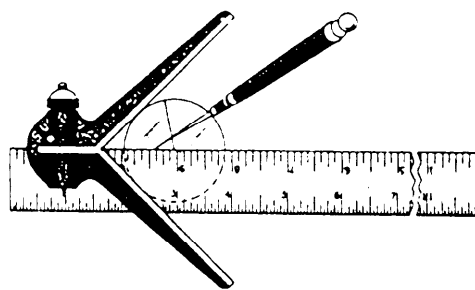
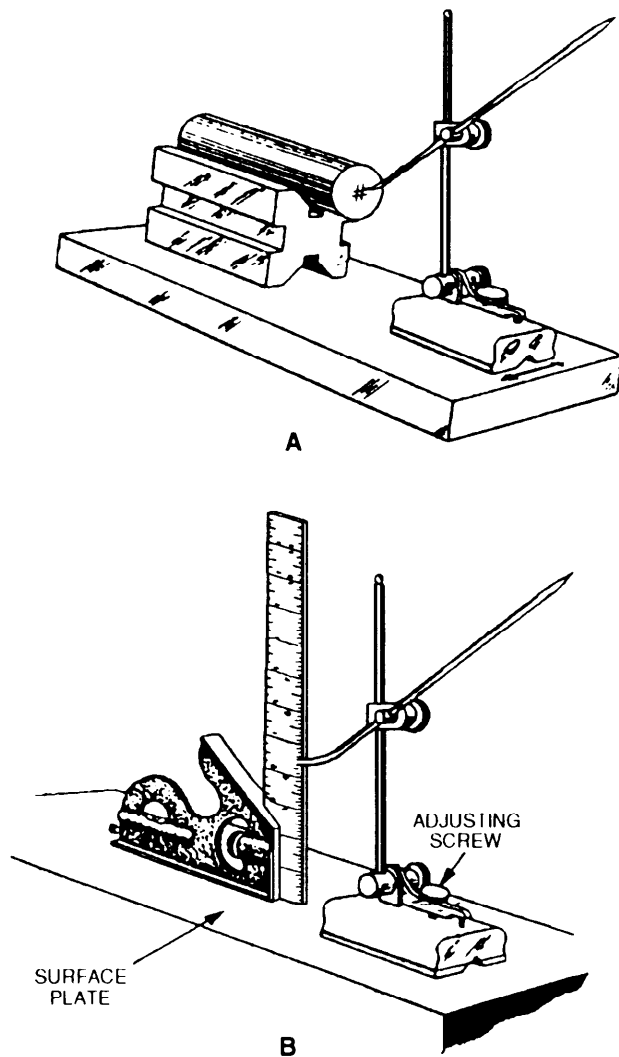

Figure 2-19.—Locating the center of round stock.
Figure 2-24.—Setting and using a surface gauge.
Use the center head and rule, as illustrated in figure 2-19, to locate the center of round stock. To find the center of square and rectangular shapes, scribe straight lines from opposite corners of the workpiece. The intersection of the lines locates the center.
View A of figure 2-24 shows a surface gauge V-block combination used to lay out a piece of stock. To set a surface gauge for height, first clean the top of the surface plate and the bottom of the surface gauge.
3. Locate the center of each flange with a surface gauge, or use a center head and rule combination if the flange diameter is relatively small. (See view A, fig. 2-24 and fig. 2-19.) After you locate the exact center point on each flange, mark the center with a sharp prick-punch.